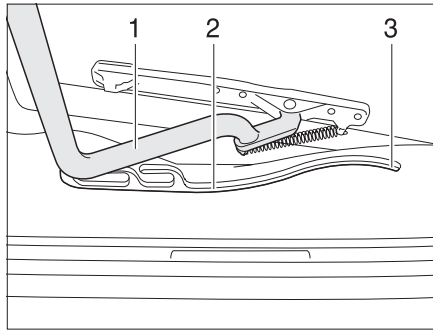

Fig. 45 Heki skylight, guide
- ▶ Pull the bar (Fig. 45,1) in the guides (Fig. 45,2) to the rearmost position (Fig. 45,3).
- ▶ Use both hands to push the bar (Fig. 45,1) slightly upwards.
- ▶ Pull the bar in the guides (Fig. 45,2) to the desired position.